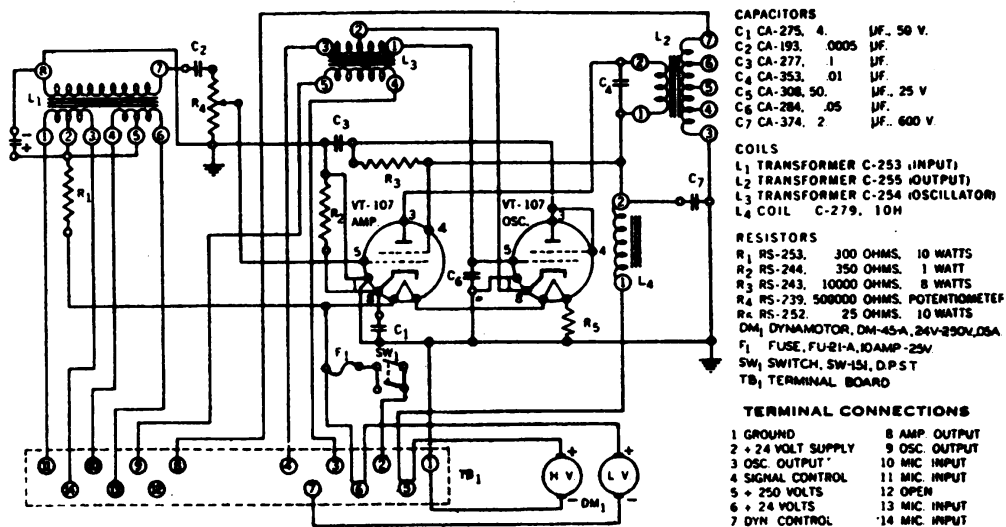

Figure 8. - Circuit Diagram for
b. Interphone Amplifier BC-667 - (See Fig. 8 For Circuit Diagram) - The electrical features of Interphone Amplifier BC-667 are identical to those of the BC-367 except for the following. As Interphone Amplifier BC-667 is to be used on a 24-volt system, it is necessary to construct the unit to operate on this higher voltage. This is accomplished by changing Dynamotor DM-25A to DM-45A, adding a series dropping resistor R5 to the filament circuit and increasing the resistance of the microphone current dropping resistor R1.